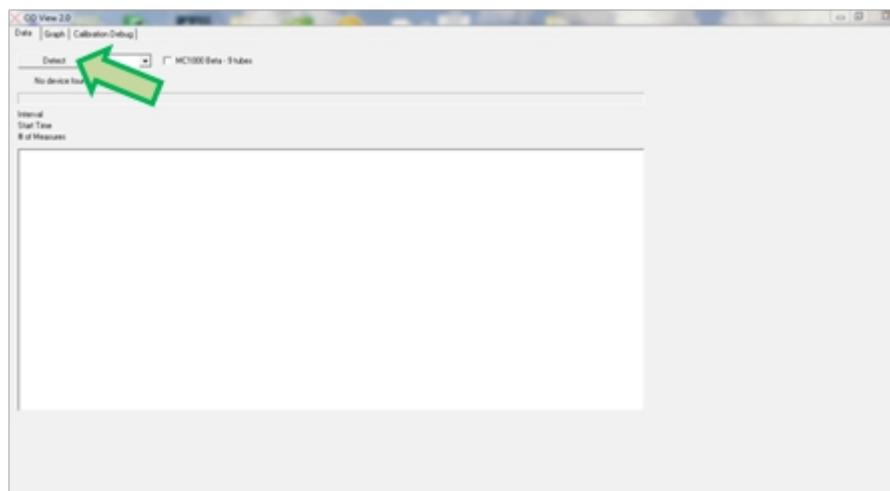

Fig. 24 The initial window of the ODView program .
3. Copy the ODView software from the Flash Disc onto the PC computer first. Run the software. The initial screen will appear as shown in Fig. 24.